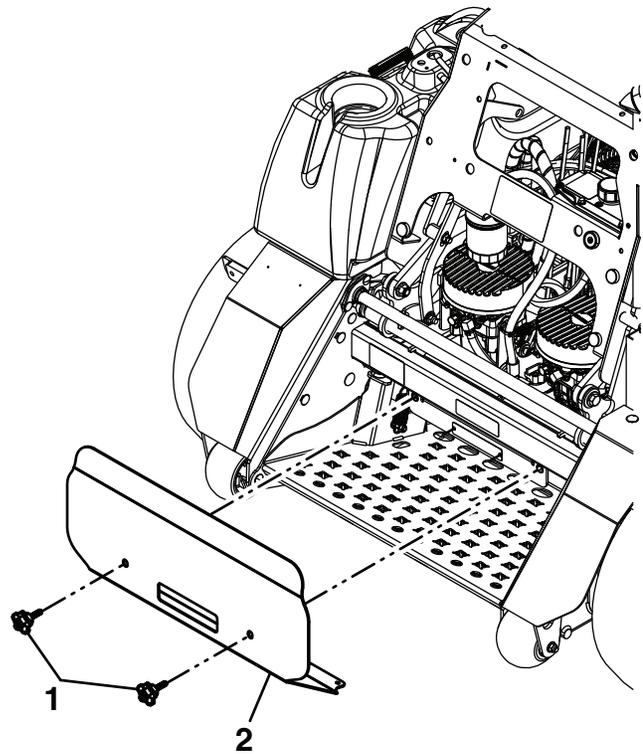

Figure 17
2. Remove and retain the two knobs from the rear guard as shown in Figure 17.